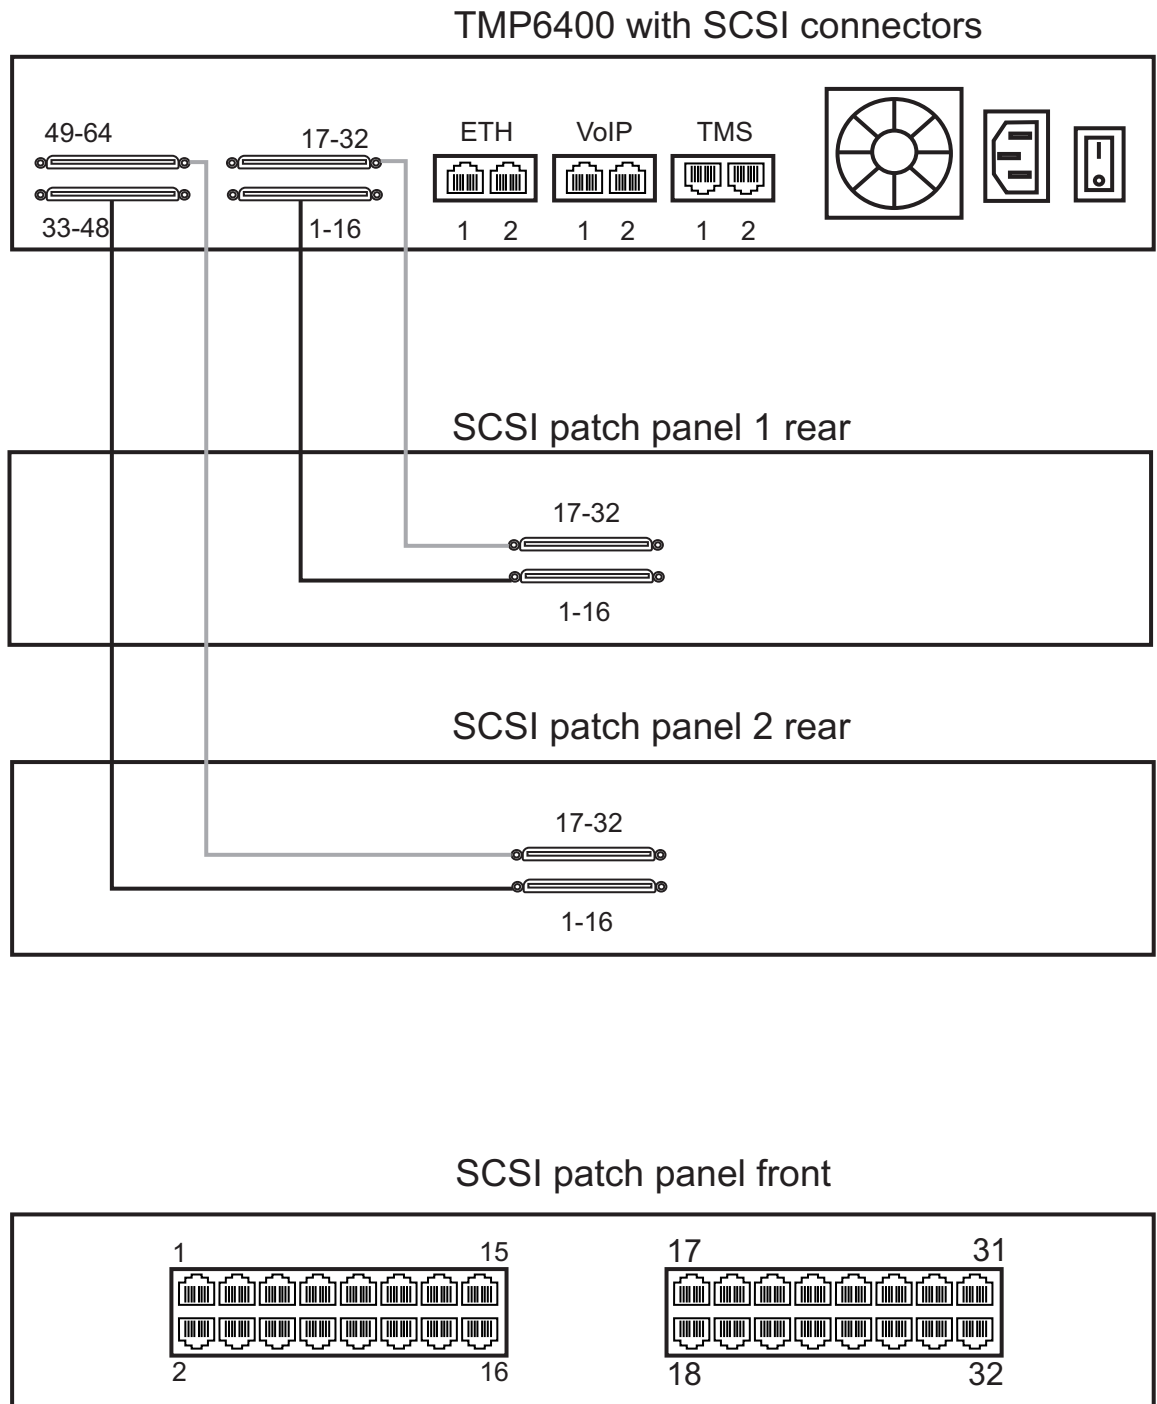

Figure 2.8 SCSI Interface to the PSTN
A TMP6400 with 4 SCSI connectors enables the connection to T1/E1/J1 lines. The termination impedance is set at 120 ohms. It is possible to connect an external balun in order to convert to 75 ohms. See figure 2.8 on page 19
1. Start with the SCSI ports 1-16 located at the bottom right as shown in figure 2.8 on page 19. Connect one SCSI cable between this port and SCSI patch panel number 1, ports 1-16. Connect SCSI ports 17-32 to patch panel number 1, ports 17-32.